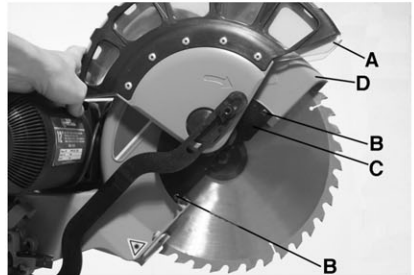

Figure 19
4. Lift the lower blade guard (A) Fig.19 with one hand, and with the other hand, unscrew and remove both pan hd screws (B) which fix the guard plate (C) and lower blade guard to the upper blade guard (D) using a Phillips screwdriver.